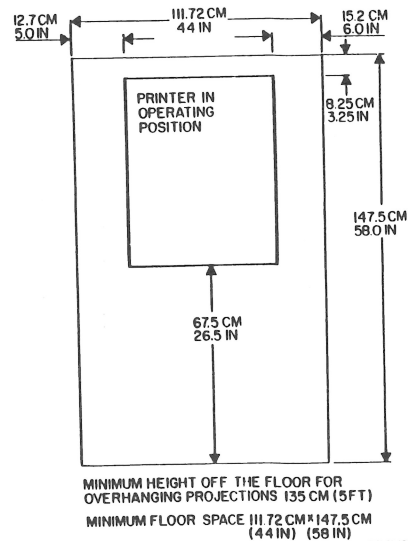

Figure 2-3 LSEP Space Requirements (B1 Only)
- 2. MEASURE AND VERIFY VOLTAGE AT WALL RECEPTACLE (FIGURE 2-3).